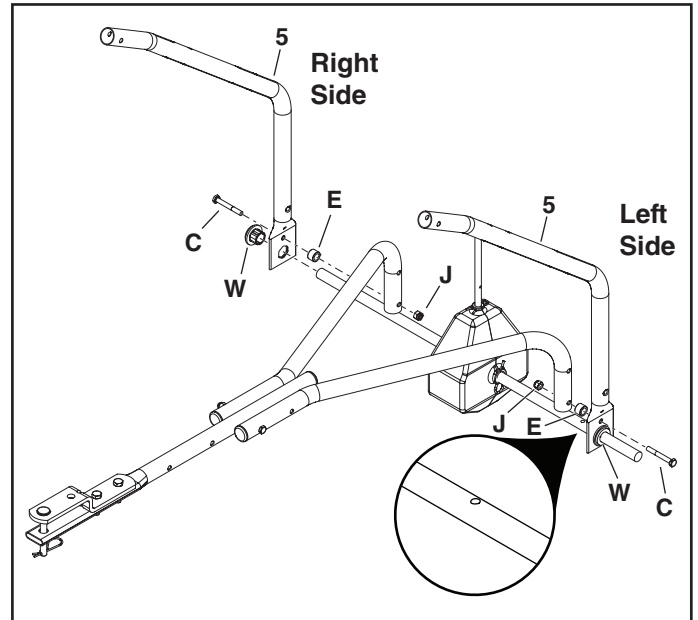

FIGURE 3
STEP 3: (SEE FIGURE 3)
- Insert the hex bushings (W) into the ends of the hopper support tubes (5).
- Assemble the axle/gearbox assembly and hopper support tubes (5) to the hitch support tubes as shown, using one 1/4" x 2" hex bolt (C), spacer (E), and 1/4" nylock nut (J) into the lower hole. **Do not tighten completely.**